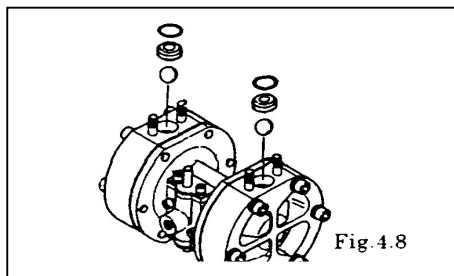

Fig.4.8
- Remove the O-ring, ball and valve seat. [Fig. 4.8]